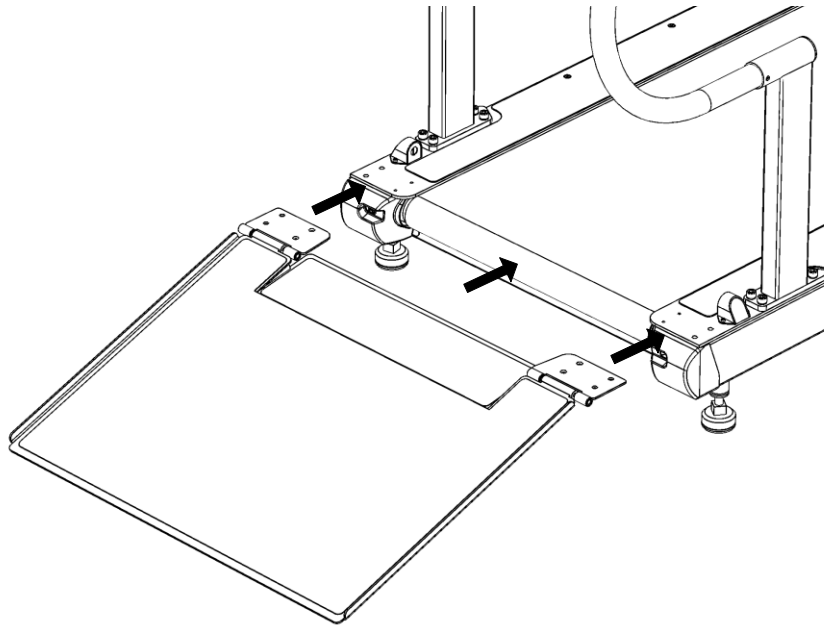

Figure 13 - Step 1 of installing the ramp on the treadmill
- Place the ramp next to the treadmill (Figure 13).